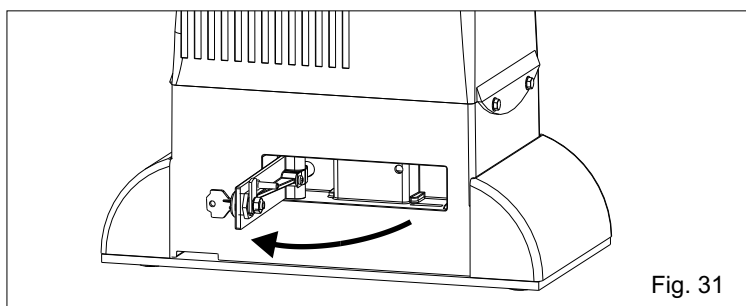

Fig. 31
- Pull the release lever until it stops, about 90° approximately (Fig. 31).